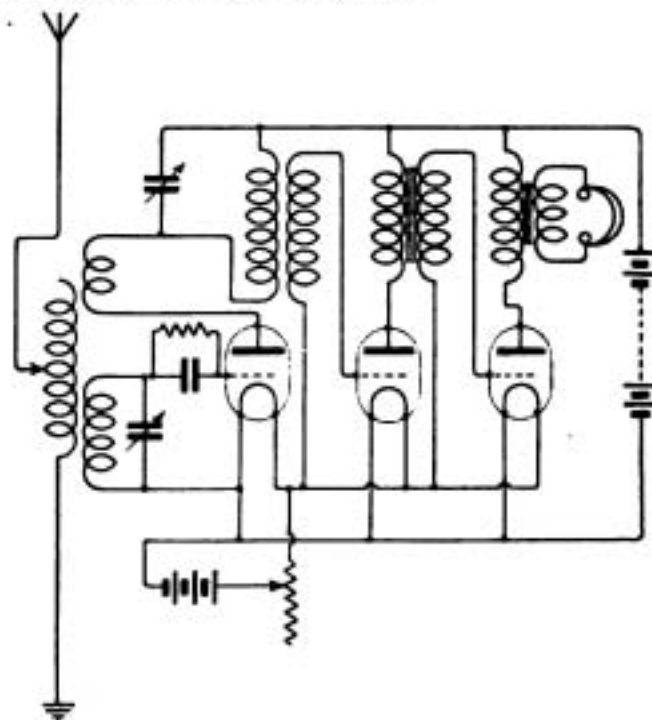

Fig. 2.
C.H.C. (Croydon).—(1) A loading coil should be introduced into this set in exactly the usual way, viz., in series with the loose coupler primary. You will probably find it necessary to increase the closed circuit inductance also.
(2) A loose coupler is preferable but not essential.
(3) We do not think a complete list is published, but information appears at times in this magazine.
(4) About 4,000 ms.
J.P. (Boscombe).—(1) Diagram Fig. 2 shows a circuit of the type suggested.
4) See Fig. 2, page 98, April 30th issue. The plate coils shown for the first two valves may be non-inductive resistances of about 80,000 ohms if desired. A reaction coil may be inserted in the plate circuit of the first valve and coupled with the closed circuit inductance.
L.L. (Edinburgh).—(1) On the whole we rather prefer aerial No. 2.
(2) You will get better results by bringing the wire down outside the house. Bringing it down inside the house will not entitle you to use more wire, and even if it did, increasing the number of the wires will not do you much good. You should increase the length up to the limit allowed by the P.M.G.
(3) You should get ship stations, and land stations such as Cullercoats and Stonehaven.
(4) The circuit of Fig. 2, page 277, July 23rd issue is about the best. With suitable dimensions of coils you should get most of the bigger European stations with it.
W.H.K. (Fulham).—(1) No. 28.
H.W.P. (Whitehaven).—(1) Fig. 2 is, of course, the proper connection. The probable reason for your results is a defective condenser; tissue paper does not sound very promising as a dielectric. The crystal is also rather doubtful.
(2) Many joints in an aerial are almost certain to weaken signals; how much they do so depends on how carefully they are made.
(3) With a good condenser of 0.0003 mfd. you should get ships and land stations up to 3,000 ms.
(4) If your potentiometer were wound with No. 36 Eureka wire to a resistance of about 400 ohms., instead of with No. 26, apparently copper, to a resistance of about 10 ohms., you would not be troubled with battery noises.
E.T.R. (Bristol).—(1) As shown, only 3,000 ms., though the aerial circuit will tune to 8,000 ms. Rewind anode circuit coil with about No. 32.